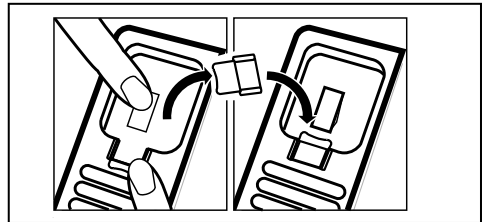

Figure 6 - Reversing the Hook
1. Pull the handset hook out of the base as shown in Figure 6 and reverse its position so that the hook points up and will hold the handset when you hang up.